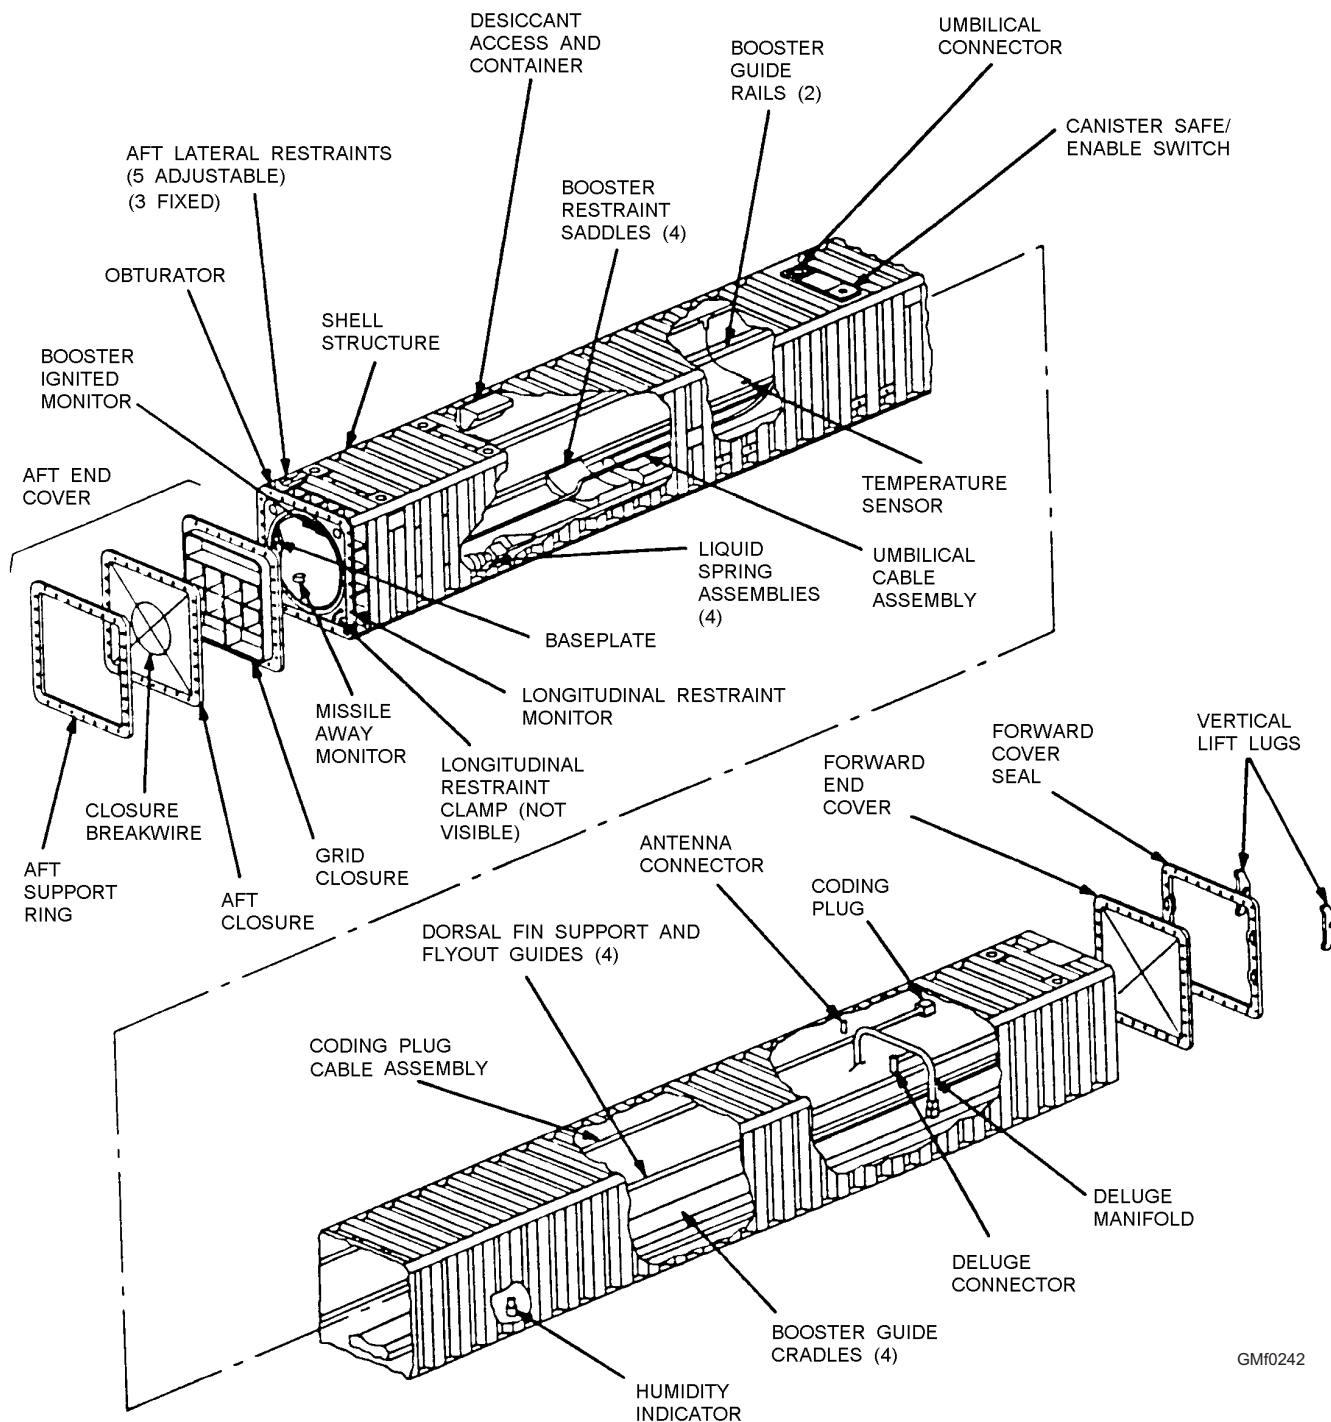

Figure 2-42.—Mk 21 Mod 0 canister.
range (ER) surface-to-air-missile (SAM) (fig. 2-42). Unlike other canisters, this is a single use canister. Dorsal fin flyout guides, booster guide rails, and booster guide cradles provide alignment for the missile during launch. A longitudinal restraint clamp is held secure to the booster until missile launch.